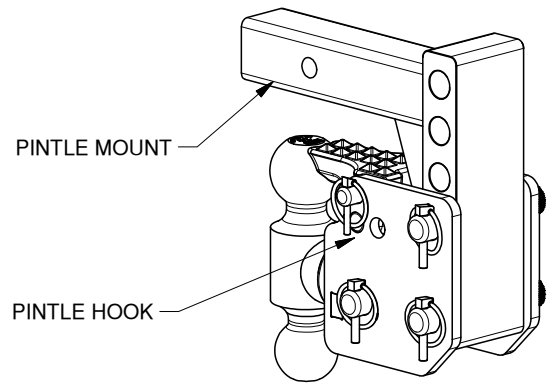
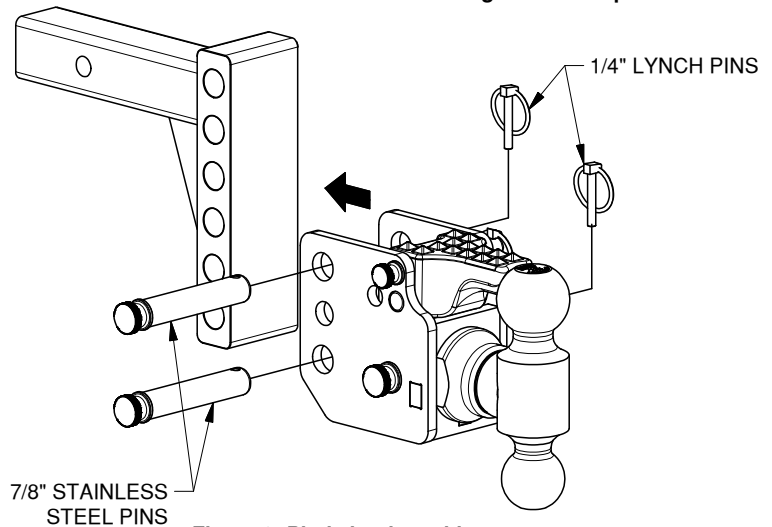

Figure 1: Stow position
Figure 2: Pintle hook position
- **Adjusting the height of the Tow & Stow pintle hitch.** The pintle hitch will be shipped in the "stow position", see Figure 1. To adjust the hitch position and height remove the two 7/8" stainless steel pins securing the pintle hook to the pintle mount. Move the pintle hook to the desired position and replace the two pins, see Figure 2. The 1/4" lynch pins must be installed to hold the 7/8" pins while towing.